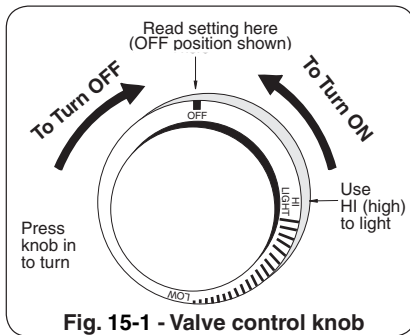

Fig. 15-1 - Valve control knob
2. Use a Phillips screwdriver to remove the stainless-steel motor assembly housing screw. Pull the top of the housing first up and then outward away from the lid until the top of the shroud clears the lip of the motor mount beneath, then remove the housing completely and set it aside (Fig. 15-1).